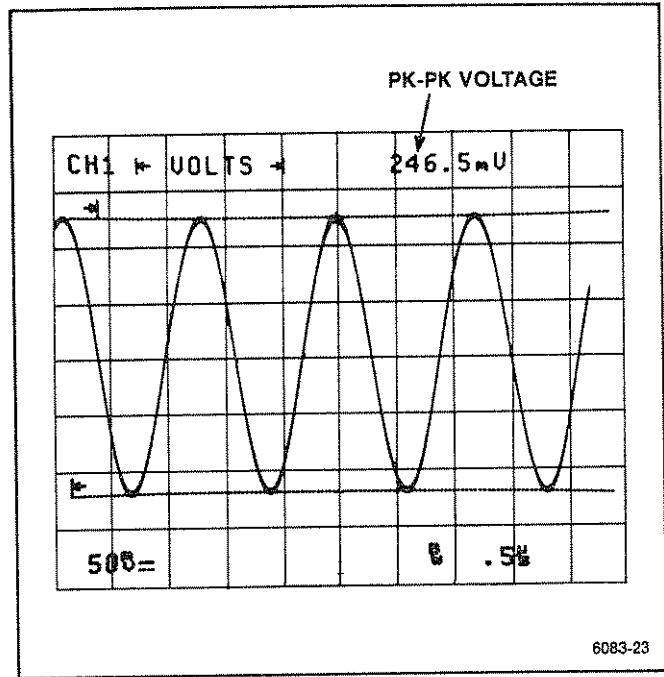

Figure 6-9. Voltage difference measurement using cursors.
2. Press the CURSORS button to display the measurement selection menu and select the $\left| \right|$ VOLTS \rightarrow cursors. The Voltage cursors are initialized to the peak-to-peak levels of the lowest numbered displayed channel of either CH 1 or CH 2 (see Figure 6-9).